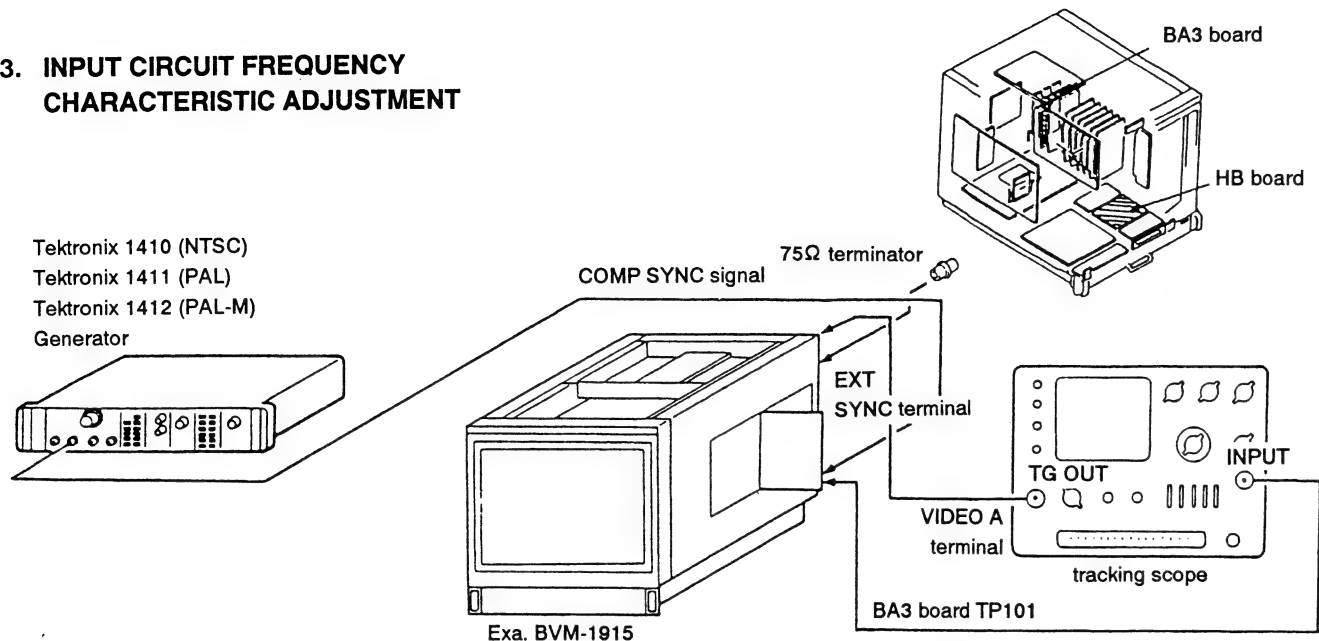

Fig. 3-1
- Complete the connection as shown in Fig. 3-1.